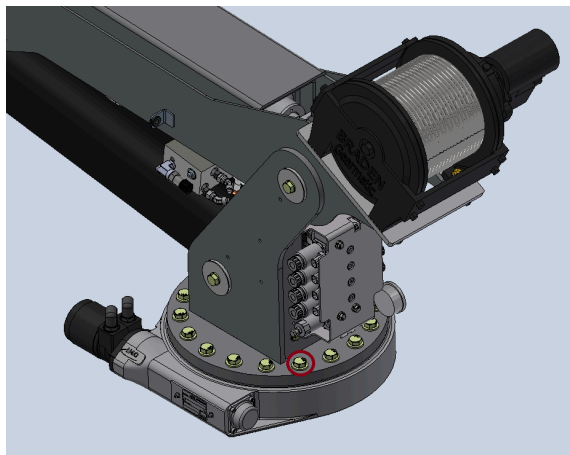
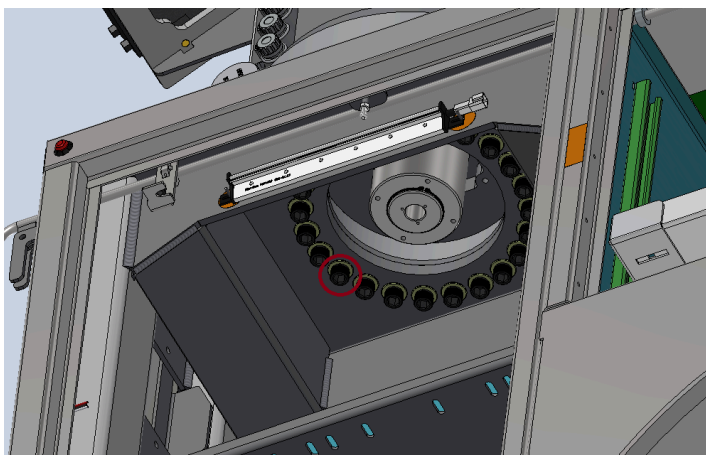

Figure 3-5 Pedestal Bolts
Figure 3-6 Rotate/Base Mounting Bolts
2. Special attention must be paid to the crane rotate/base bolts shown in Figure 3-5 & Figure 3-6
3. The crane mounting bolts (shown in Figure 3-5 and 4-6) must be checked using the following procedure: